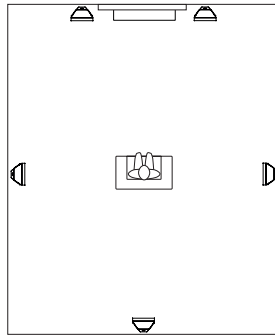

Figure 6
7.1 systems and 6.1 systems with two rear speakers (figure 6)